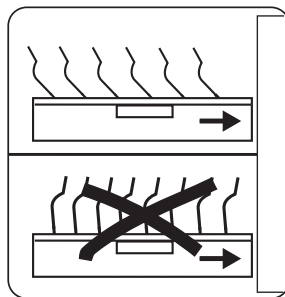
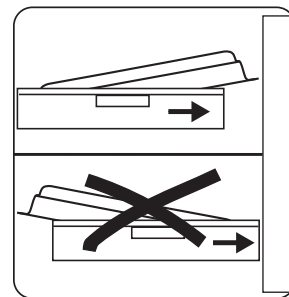

Figure 24 Positioning dishes
Figure 25 Positioning pans
- Arrange dishes and pans on the racks following the feed direction of the rack conveyor system (Figure 24 / Figure 25).